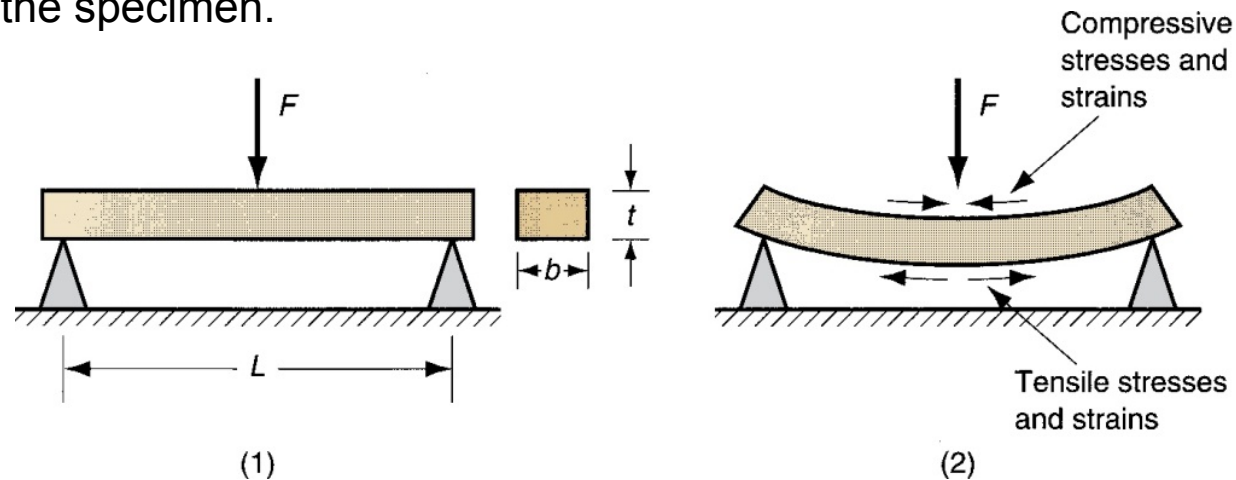

Fig. 3-11: Bending test setup and specimen: (1) initial loading, and (2) highly stressed and strained specimen
- Bending operations: used to form metal plates and sheets (Fig. 3-11; showing the setup of the bending test). Bending results in two stress (and strain) components; tensile in the outer half of the bent section and compressive in the inner half.
$$TRS = \frac{1.5FL}{bt^2} \quad \text{where } TRS \text{ is in MPa, } F: \text{ the applied load at fracture in N, } L: \text{ the length between supports and } b \text{ and } t \text{ are dimensions of the cross-section in mm (Fig. 3-11)}$$